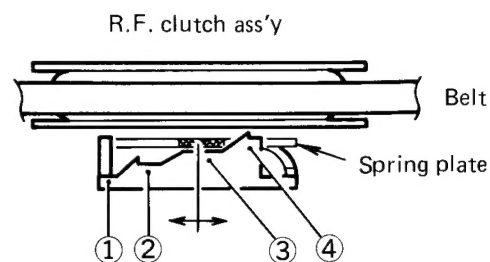

Fig. 20
1. Fast forward torque adjustment (Fig. 20)
2. Rewind torque adjustment (Fig. 20)